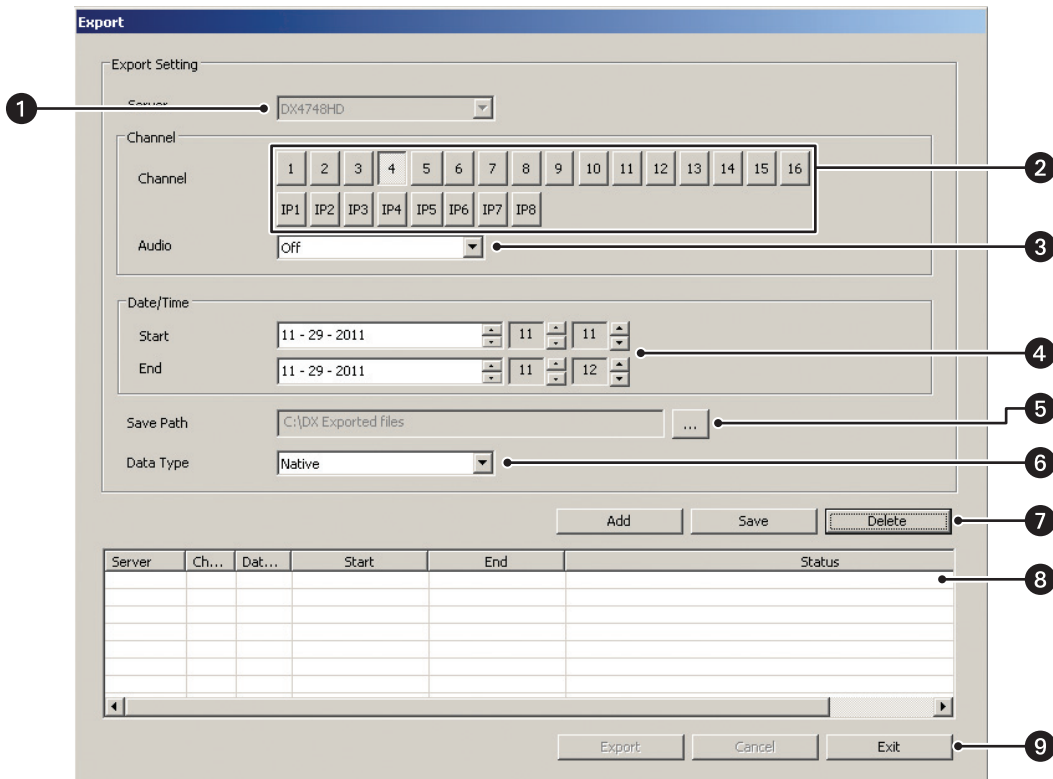

Figure 40. Client Export Mode
- View exported data. For more information about Export mode, refer to Figure 40 on page 52.